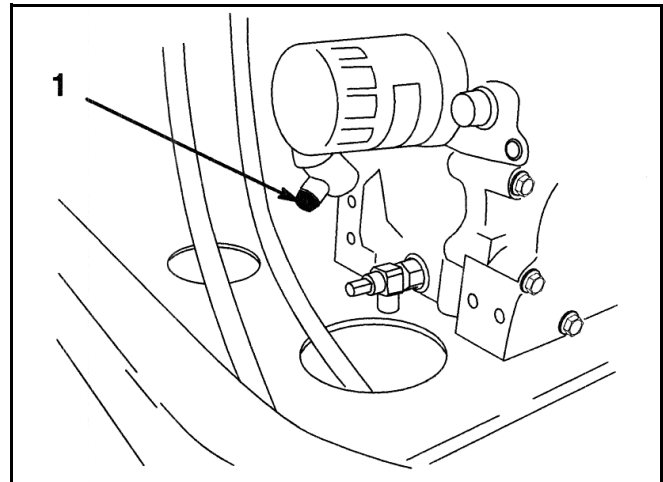

Figure 10
4. The engine block must be drained by removing the drain plug from the engine block (Figure 10).
NOTE: The drain plug is black in color and is located near the oil filter (Figure 10).